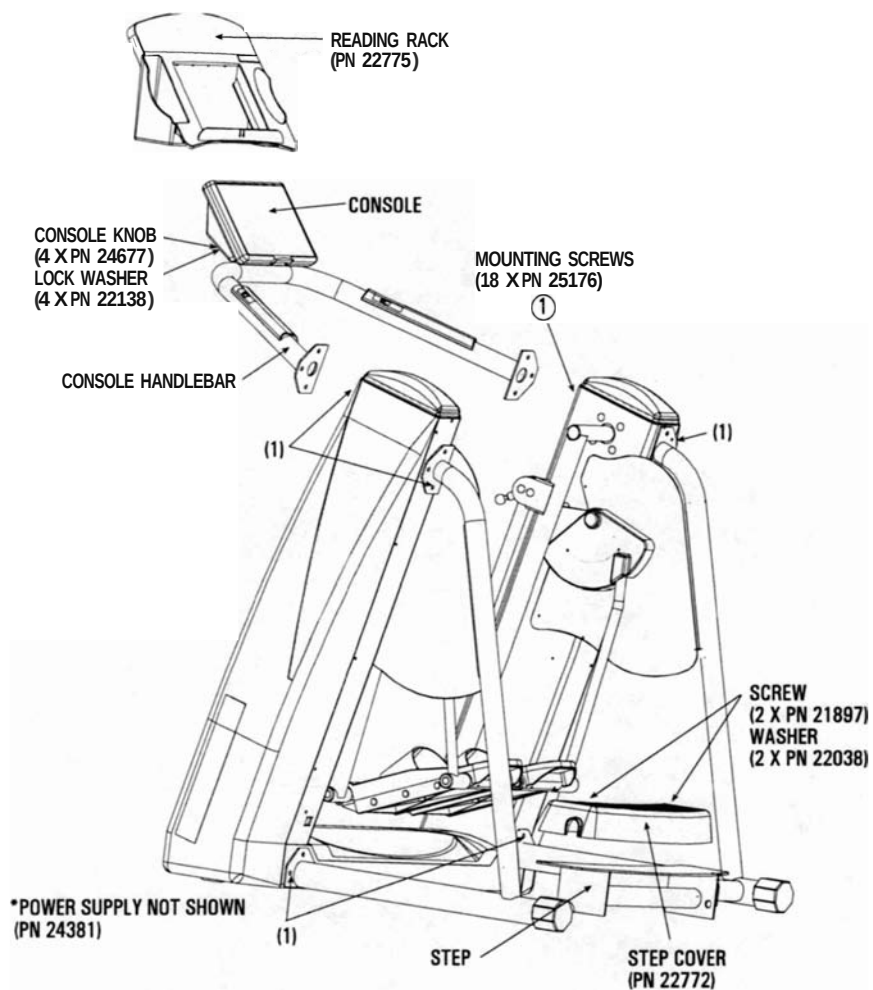

Figure 2: Shipping Components
Your FreeRunner™ is shipped complete with all parts required for assembly. Study the assembly instructions carefully. The shipping components are shown below in Figure 2. Contact our Customer Service Department at (800) 331-3578 for assistance. International customers should contact their local distributors.